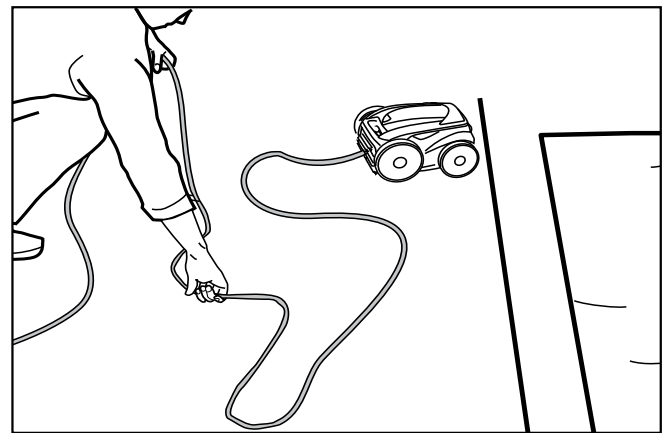

Figure 22. Smooth the Power Cable
4. Starting at the cleaner head. Remove all coils and tangles from the cable (Figure 22).